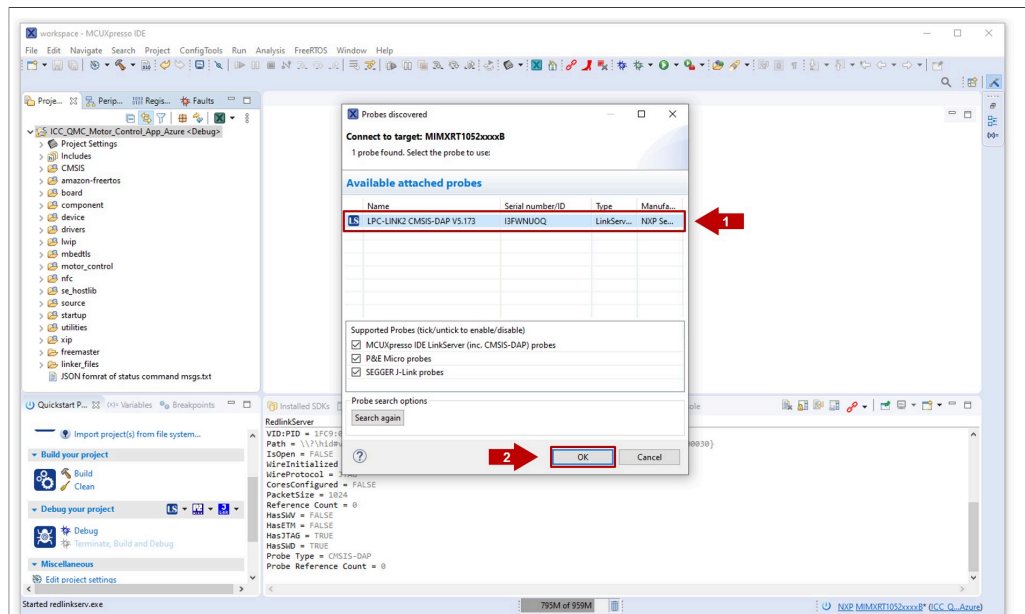

Figure 20. LPC-Link2 debug probe detection
2. Make sure the LPC-Link2 debug probe is recognized by MCUXpresso (1) and click **OK** (2), as shown in Figure 20: